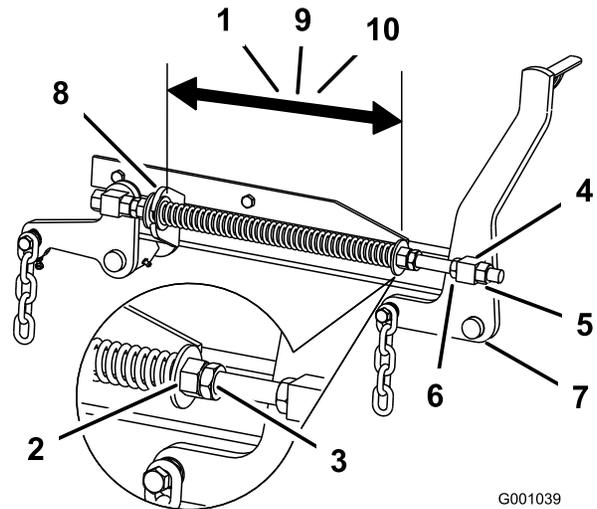

Figure 107
2. Check the distance between the 2 large washers, it needs to be 28.2 cm (11-1/8 inches) for 52 inch mower decks, 26.7 cm (10-1/2 inches) for 60 inch mower decks, or 29.2 cm (11-1/2 inches) for 72 inch mower decks (Figure 107).
3. Adjust this distance, by loosening the spring-jam nut and turning the nut in front of each spring (Figure 107).
4. Lock the nut into position by tightening the spring-jam nut (Figure 107).